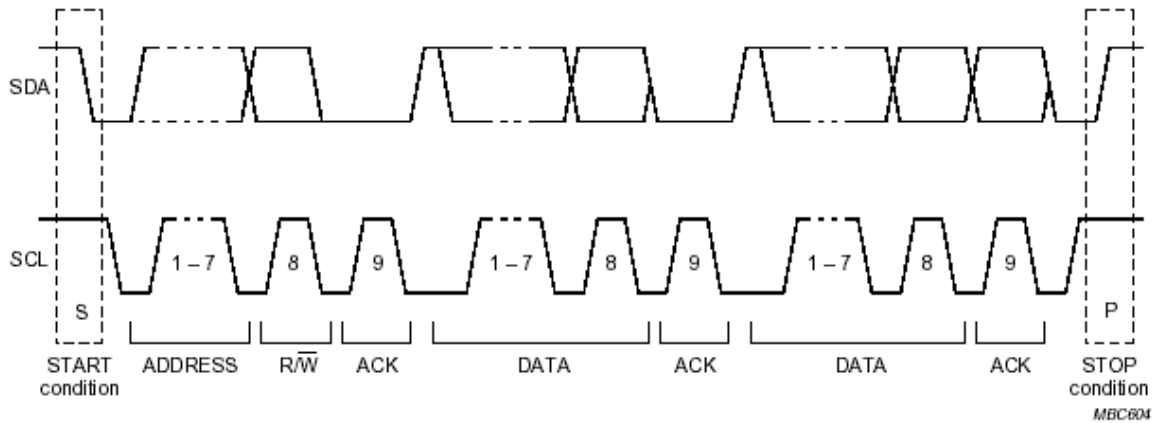

Figure 4.2-13 A complete data transfer
Data transfers follow the format shown in Figure 4.2-13. After the START condition (S), a slave address is sent. A device only responds to an I²C message when its own address and the address in the I²C frame match. The definition of the 7-bit address shall be xxxxyyy. The four most significant bits, xxxx, are specific to tunable sources and are defined as 1100 (allocated by Philips). The least significant bits, yyy, are specific to an individual module and are defined by the address pins A2, A1, A0. The address is then defined as “1 1 0 0 A2 A1 A0.” This 7-bit address is followed by an eighth bit that is a data direction bit (R/W) - a ‘zero’ indicates a transmission (WRITE), a ‘one’ indicates a request for data (READ). A data transfer is always terminated by a STOP condition (P) generated by the master. However, if a master still wishes to communicate on the bus, it can generate a repeated START condition (Sr) and address another slave without first generating a STOP condition. Various combinations of read/write formats are then possible within such a transfer, which are described in the Philips I²C-Bus specification.
The use of the Start and Stop commands is demonstrated in Figure 4.2-13 above, which shows how the 4-byte packets are received by the module and transmitted from the module.